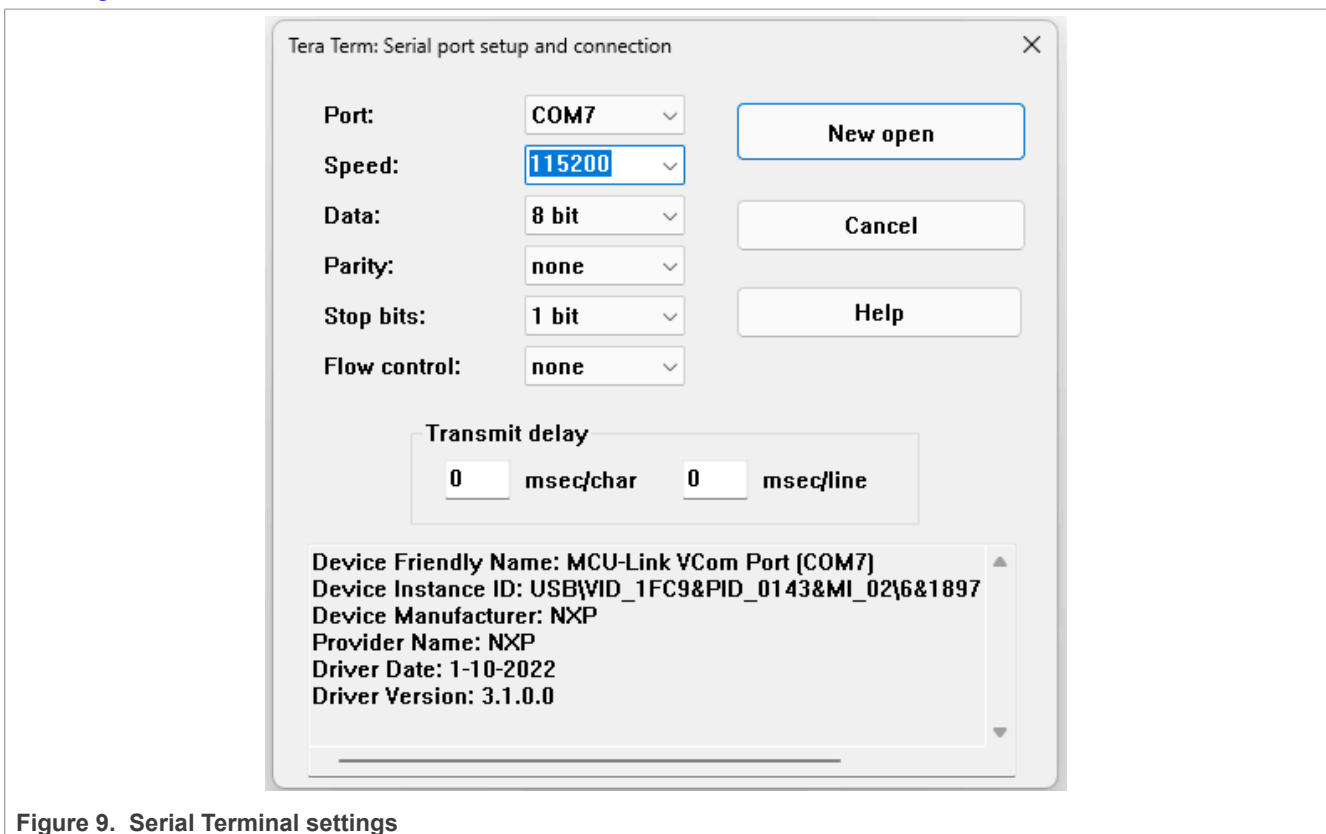

Figure 9. Serial Terminal settings
- Ensure that the PC is running a serial terminal application with correct VCOM link settings, as shown in Figure 9.